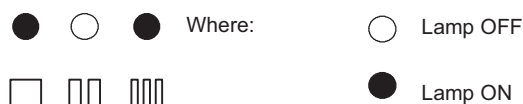

Figure 10.19
- 12 Press the reset button D repeatedly (4 times) until the lamps F give the indication as in Figure 10.19 (ignition pressure adjustment mode).